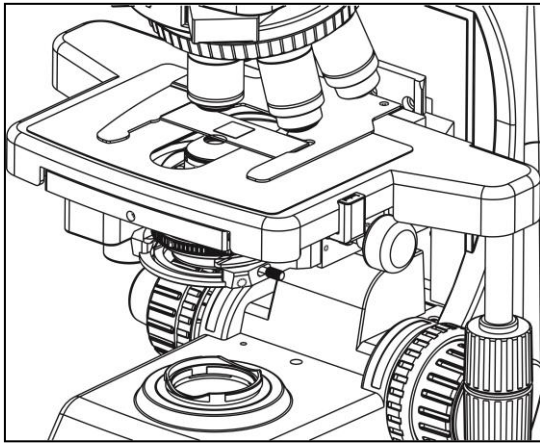
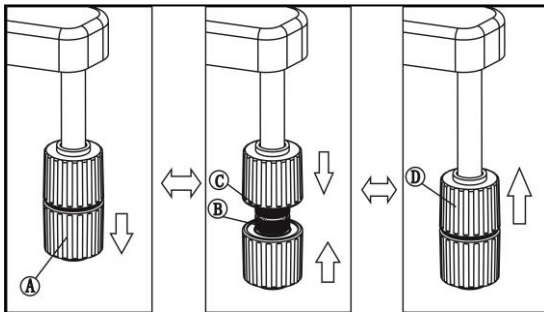

Fig 4
Fig 5
3.4 Mount Specimen And Adjust Stage(fig 4, fig 5)